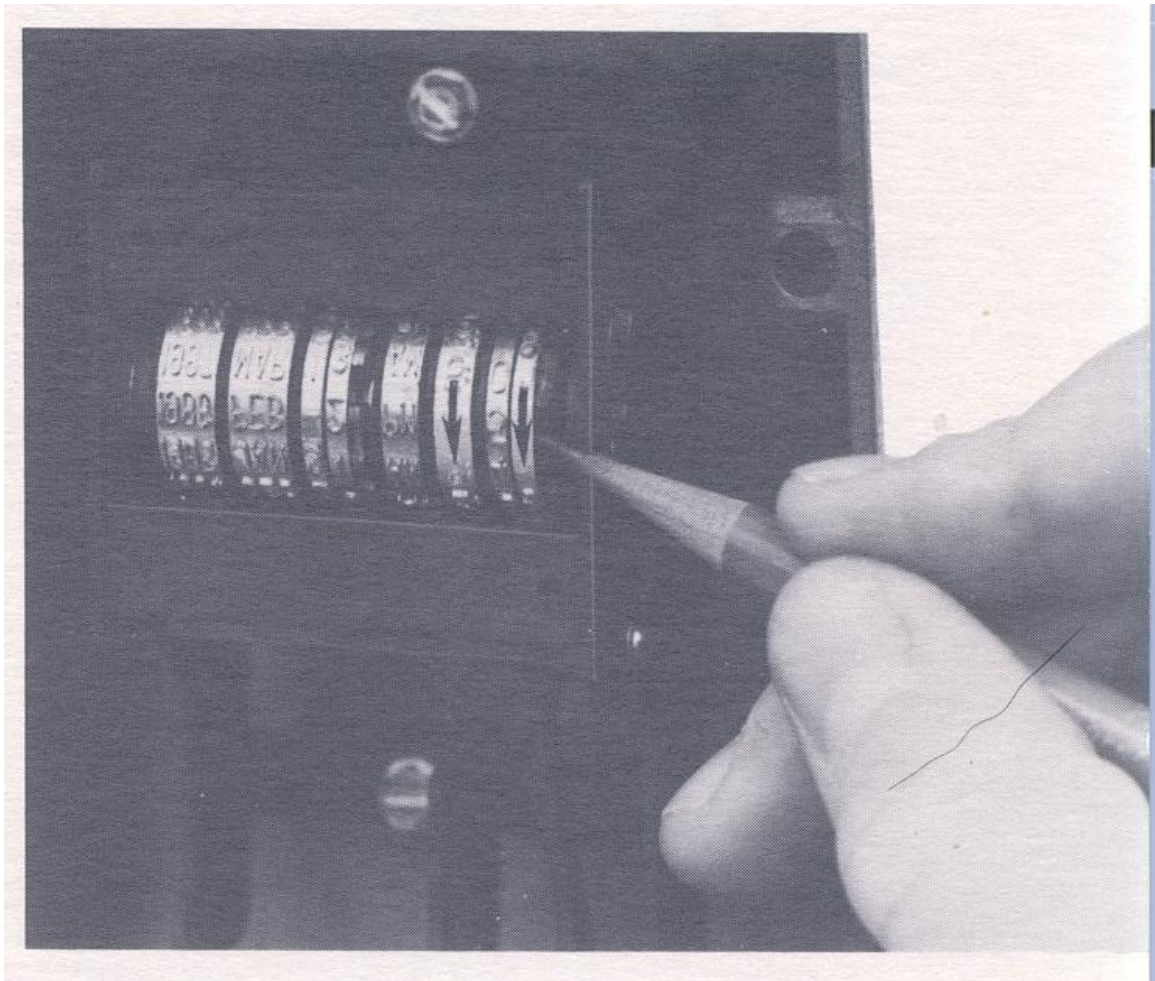

Figure 6
2. Set each print wheel individually to the date, time or number desired. Turn each wheel downward to the setting desired, using a pencil or a wooden stylus. (*figure 6*)